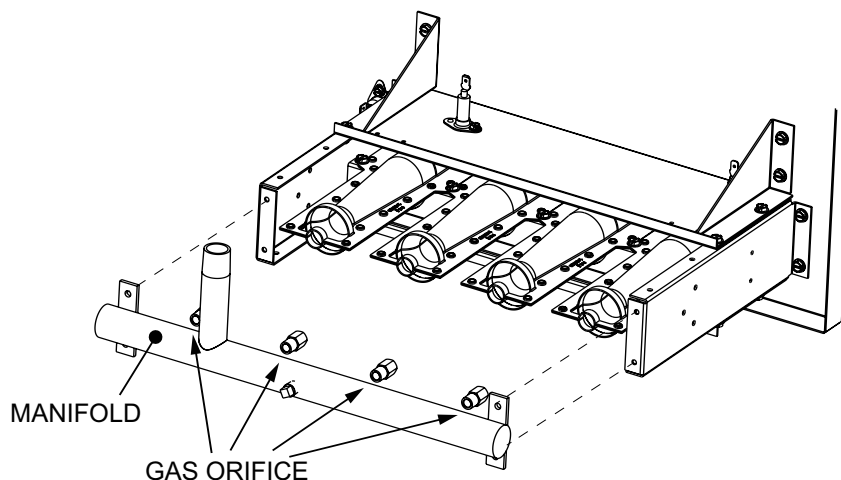

Figure 14. Gas Orifices
When gas orifice (see Figure 14) replacement is required on US installations, refer to Table 20 and Table 21 to select the appropriate elevation adjustment (AB) option.